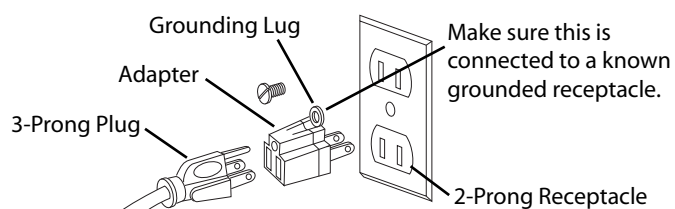

Figure 2 – 2-Prong Receptacle with Adapter
- A temporary 3-prong to 2-prong grounding adapter (See Figure 2) is available for connecting plugs to a two pole outlet if it is properly grounded.